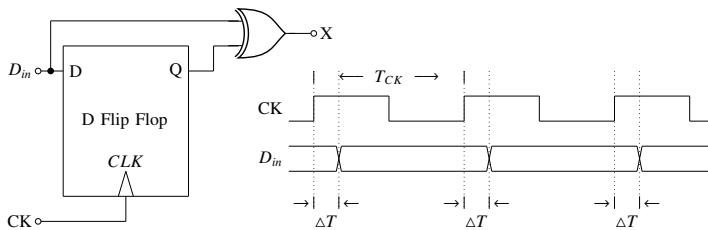

Fig. 5.24
24. In the circuit shown below, a positive edge-triggered D Flip-Flop is used for sampling input data  $D_{in}$  using clock  $CK$ . The  $XOR$  gate outputs 3.3 volts for logic HIGH and 0 volts for logic LOW levels. The data bit and clock periods are equal and the value of  $\Delta T/T_{CK} = 0.15$ , where the parameters  $\Delta T$  and  $T_{CK}$  are shown in Fig. 5.24. Assume that the Flip-Flop and the  $XOR$  gate are ideal. If the probability of input data bit ( $D_{in}$ ) transition in each clock period is 0.3, the average value (in volts, accurate to two decimal places) of the voltage at node X, is .....